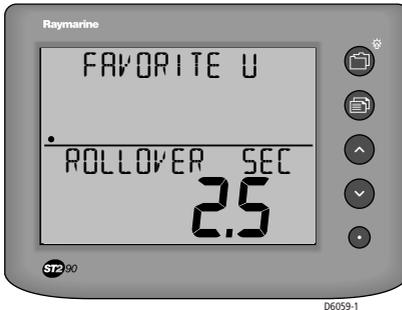

Figure 3-3: Set Favorite rollover page
2. Hold down the  button for 1 second, to display the Favorite rollover setup page (*Figure 3-3*).